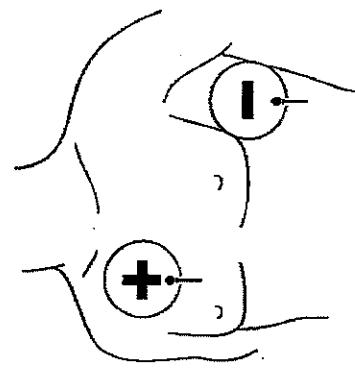

Figure 5-4 Anterior-lateral electrode placement for pacing
- 7A Place the black ANTERIOR (-) electrode on the left anterior torso, just lateral to the left of the nipple in the midaxillary line. This corresponds to the V₆ electrode position (see Figure 5-4).
- 8A Place the red POSTERIOR (+) electrode on the right anterior upper torso subclavicular area lateral to the sternum (see Figure 5-4).
When using noninvasive pacing on unconscious patients, the patient's level of consciousness may improve during pacing. Patient discomfort associated with noninvasive pacing may occur. Discomfort may be minimized by administration of a sedative or analgesic or movement of the anterior (negative) pacing electrode to the V₆ electrode position (see Figure 5-4). Repositioning of the negative pacing electrode may result in a lower capture threshold, thus reducing discomfort.